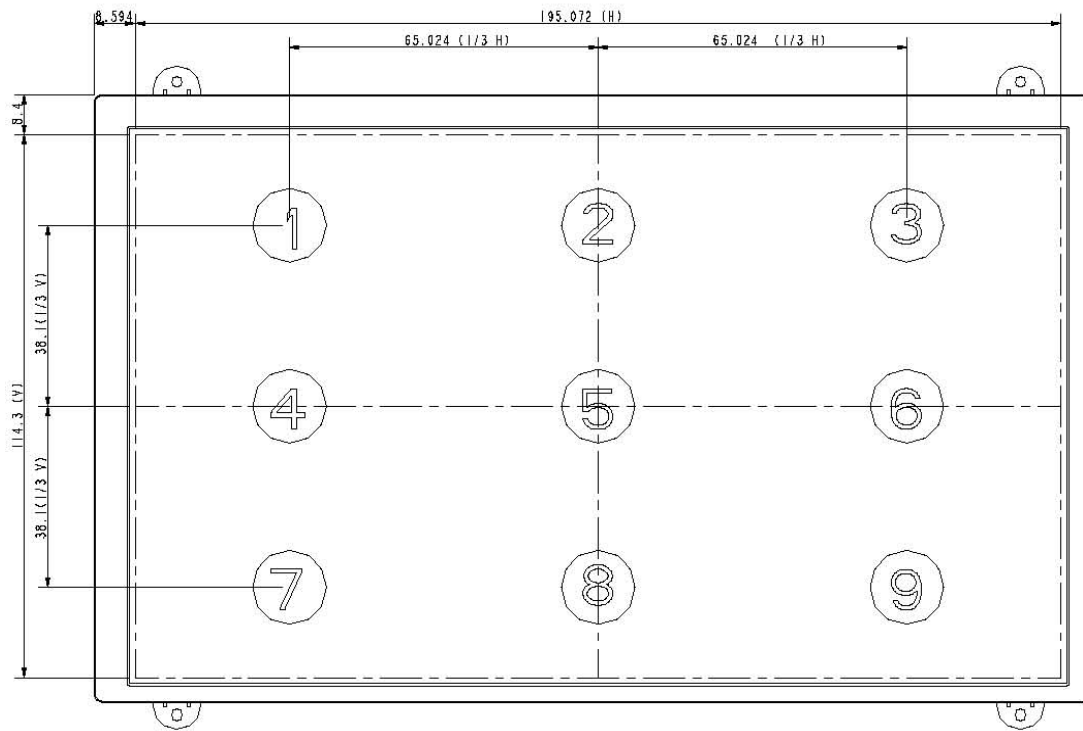

Fig. 8-1 Measuring point
- *3) Definition of Luminance: Measuring white luminance on the point-5 as figure 8-1
Definition of Luminance Uniformity: Measuring white luminance on the point1 to 9 as figure 8-1